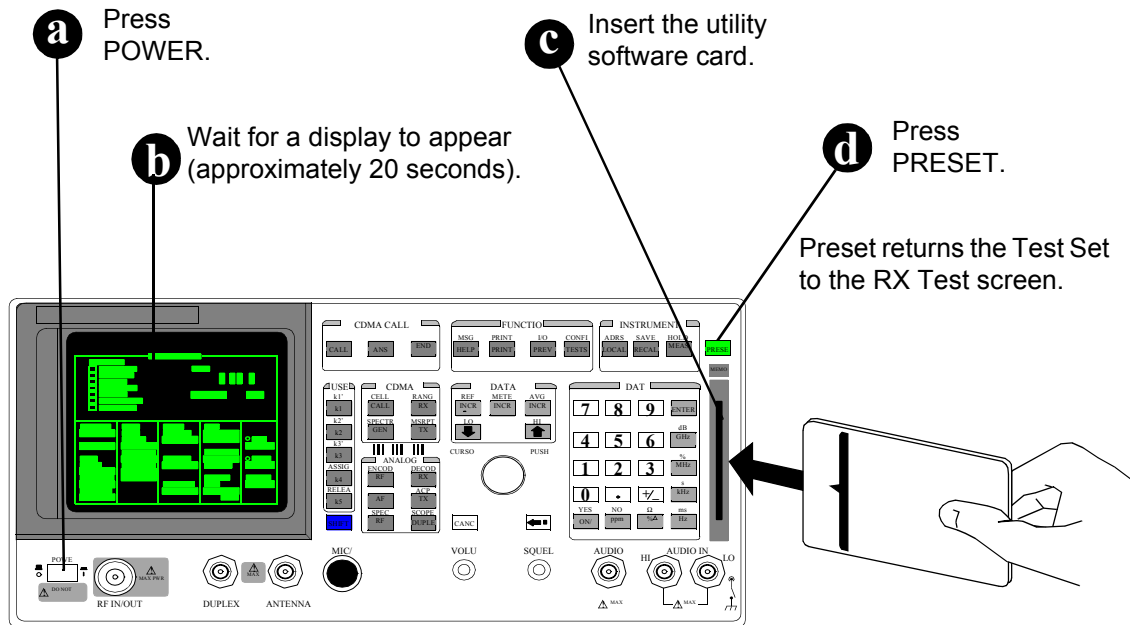

Figure 21
- 4 To prepare the Test Set for running the connectivity test, perform the steps shown in figure 21.